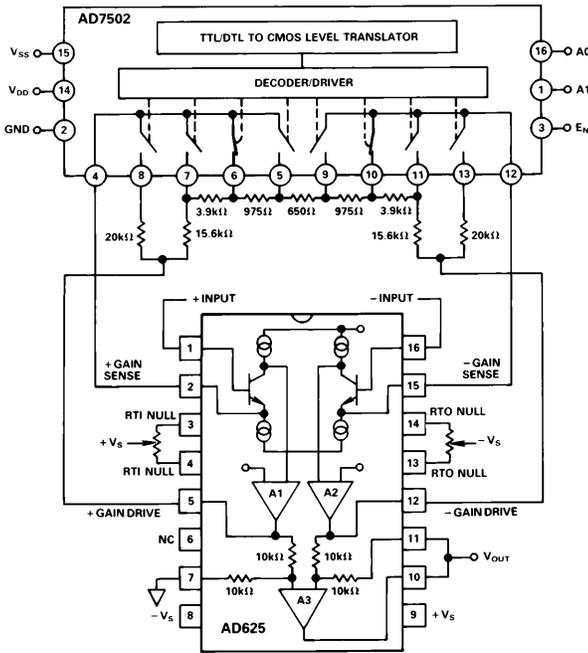

Figure 38. SPGA in a Gain of 16
Figure 38 shows an AD625 based SPGA with possible gains of 1, 4, 16, 64. R_G equals the resistance between the gain sense lines (Pins 2 and 15) of the AD625. In Figure 38, R_G equals the sum of the two 975 Ω resistors and the 650 Ω resistor, or 2600 Ω. R_F equals the resistance between the gain sense and the gain drive pins (Pins 12 and 15, or Pins 2 and 5), that is R_F equals the 15.6 kΩ resistor plus the 3.9 kΩ resistor, or 19.5 kΩ. The gain, therefore equals:
can be used to calculate the necessary feedback resistors for any set of gains. This formula yields a network with a total resistance of 40 kΩ. A dummy variable (j) serves as a counter to keep a running total of the preceding feedback resistors. To illustrate how the formula can be applied, an example similar to the calculation used for the resistor network in Figure 38 is examined below.
- 2) Before making any calculations it is advised to draw a resistor network similar to the network in Figure 41. The network will have (2 × M) + 1 resistors, where M = number of gains. For Figure 38 M = 3 (4, 16, 64), therefore, the resistor string will have 7 resistors (plus the two 20 kΩ “side” resistors for unity gain).
- 5) If different resistor values are desired, all the resistors in the network can be scaled by some convenient factor. However, raising the impedance will increase the RTO errors, lowering the total network resistance below 20 kΩ can result in amplifier instability. More information on this phenomenon is given in the RPGA section of the data sheet. The scale factor will not affect the unity gain feedback resistors. The resistor network in Figure 38 has a scaling factor of $650/625 = 1.04$, if this factor is used on R_{F_1} , R_{F_2} , R_{F_3} , and R_G , then the resistor values will match exactly.